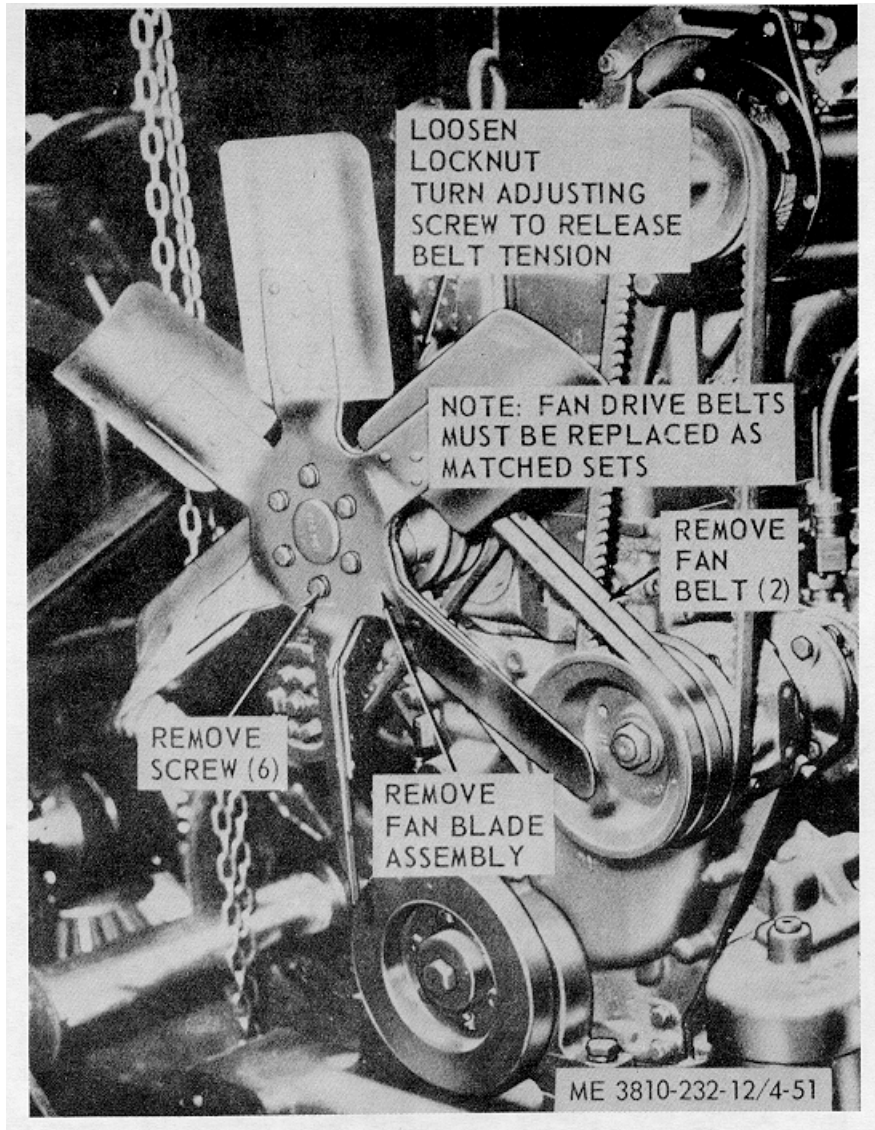

Figure 4-51. Crane engine fan belts and fan removal and installation.
(1) Remove radiator fan guards (para 4-57).
(2) Remove fan belts and fan as illustrated in figure 4-51.
- (1) Install fan belts and fan as illustrated in figure 4-51.